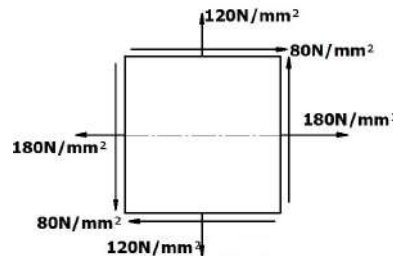

Figure 14
12. The state of stress at a point in strained material is as shown in **Figure 14**. Determine: